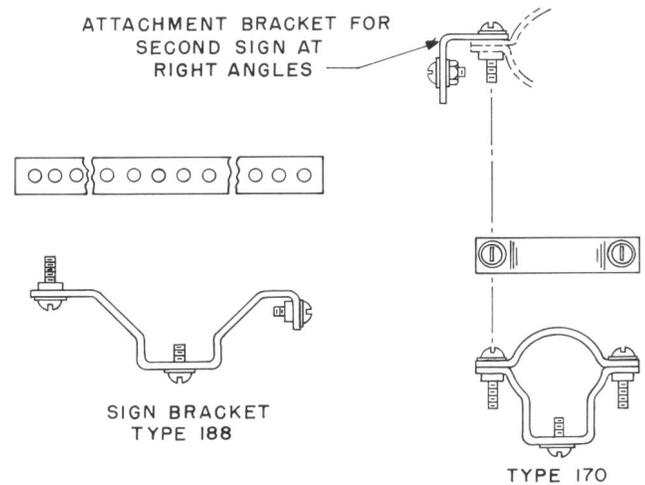

Fig. 7 - 170- and 188-Type Sign Brackets
3.07 Fig. 7 shows the type of mounting brackets for metal pole installations. Table A lists the various sizes and types of 170- and 188-type sign brackets.